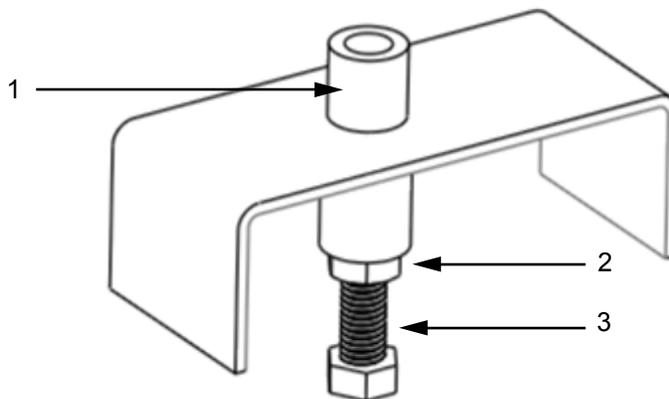

Figure 5. Mounting Bracket.
2. Unscrew the bolt (Figure 5, Item 3) on the mounting bracket so that roughly 1 inch of thread is showing. (This may need to be adjusted, depending on the rack).